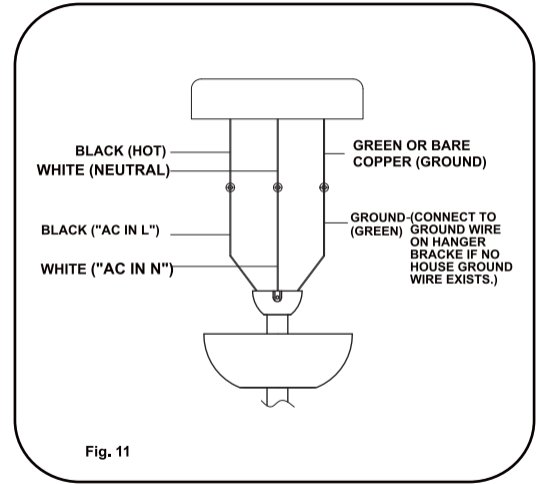

Fig. 11
Step 1. Motor to House Supply Wires Electrical Connections: Connect the WHITE wire (Neutral) from the outlet box to the WHITE wire marked 'AC in N' from the motor. Connect the BLACK wire (Hot) from the outlet box to the BLACK wire marked 'AC in L' from the motor. Secure all wire connections with the plastic wire nuts provided. (Fig. 11)
Step 2. If your outlet box has a GROUND wire (Green or Bare Copper) connect this wire to the Hanger Ball and Hanger Bracket Ground wires. If your outlet box does not have a Ground Wire, then connect the Hanger Ball and Hanger Bracket Ground Wires together. Secure wire connection with the plastic wire nut provided. (Fig. 11)